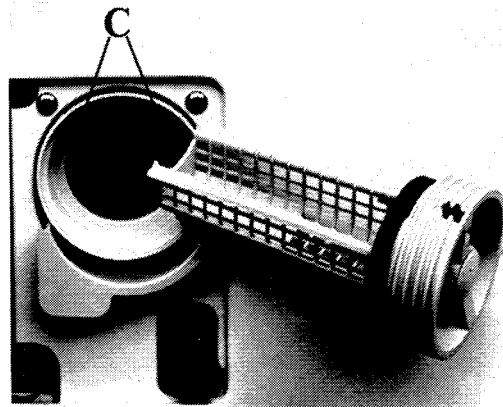

fig. 12
6. Refit the filter into the special guides C (fig. 12) and turn the knob clockwise until the red notch reappears.